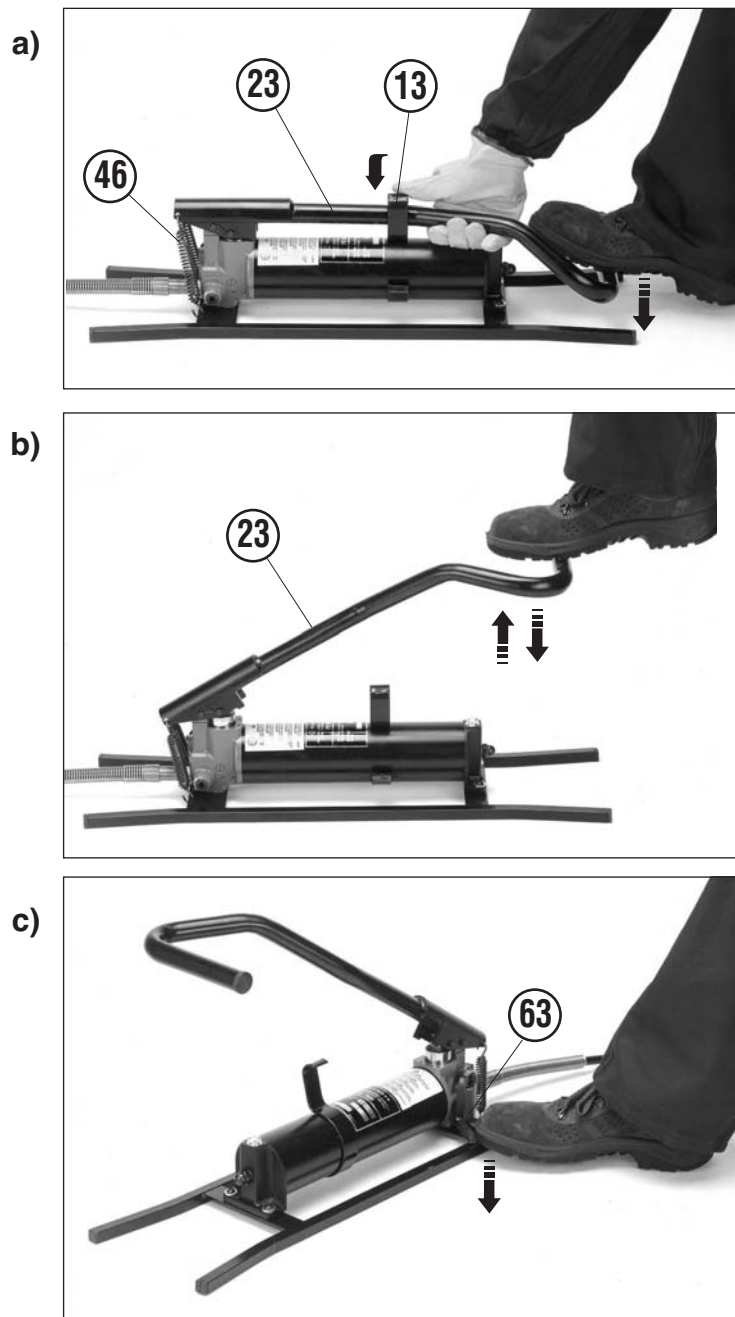

FIG. 3 PUMP OPERATION - ACTIONNEMENT POMPE - PUMPENBEDIENUNG
2.1) Operation (Ref. to Fig. 3)